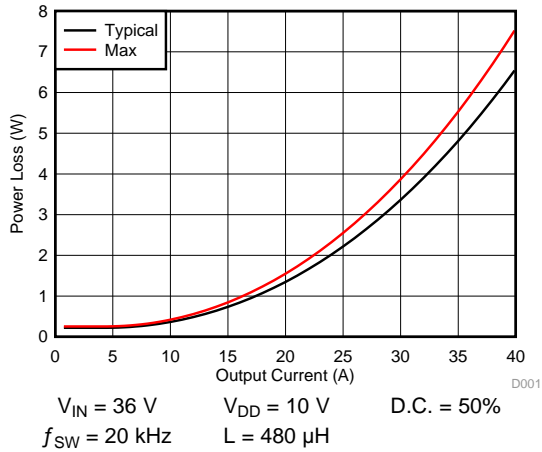
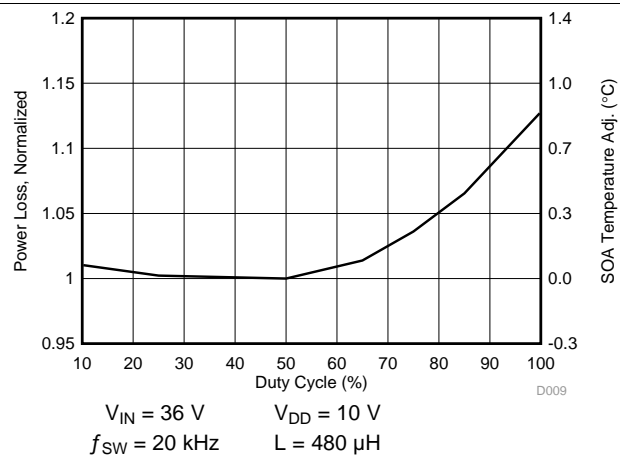

Figure 1. Power Loss vs Output Current
Figure 6. Normalized Power Loss vs Duty Cycle
The typical power block system characteristic curves (Figure 1 through Figure 6) are based on measurements made on a PCB design with dimensions of 4 in (W) × 3.5 in (L) × 0.062 in (H) and 6 copper layers of 2-oz copper thickness. See Application and Implementation section for detailed explanation. $T_J = 125^{\circ}\text{C}$, unless stated otherwise.
Figure 1 plots the CSD88599Q5DC power loss as a function of load current. The measured power loss includes both input conversion loss and gate drive loss.
In the example below, we show how to achieve this for the temperatures $T_C = 124^\circ\text{C}$ and $T_B = 120^\circ\text{C}$. First we draw from 40 A on the Y-axis at 124°C to 120°C on the X-axis. Then, we draw a line up from where this line crosses the T_X line to see that this line intercepts the SOA at 34 A. Thus we can assume if we are measuring a PCB temperature of 124°C , and a top case temperature of 120°C , the power block can handle 34-A RMS, at the normalized conditions. At conditions that differ from those in Figure 1, the user may be required to make an SOA temperature adjustment on the T_X line, as shown in the next section.
- Power loss at 30 A \approx 3.4 W (Figure 1)
- Normalized power loss for duty cycle \approx 1.12 (Figure 6)
- SOA adjustment for duty cycle \approx 0.7°C (Figure 6)